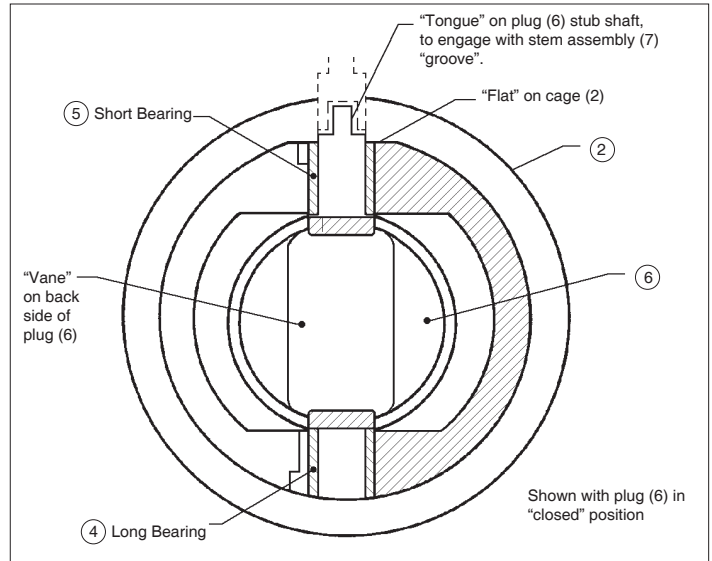

FIGURE 5
- Slip bearings (4)(5) onto the plug (6) stub shafts.
NOTE: Bearings (4) (5) are not the same length. The shorter bearing (5) fits the plug (6) stub shaft that has the tongue end. See Figure 5.